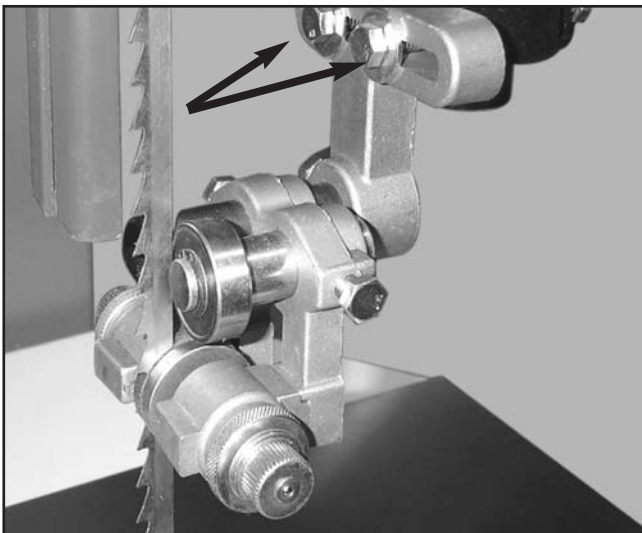
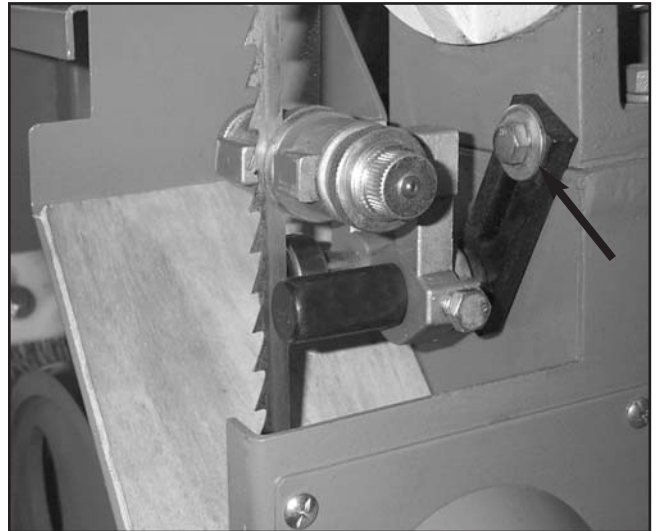

Figure 14. Loosen these bolts to adjust upper bearing assembly laterally.
Figure 15. Loosen this bolt to adjust lower bearing assembly laterally.
The support bearings support the back of the blade during the sawing operation. The adjustments that can be made to the support bearings are lateral placement and backing placement. Make sure the guide bearings are adjusted away from the blade before making this adjustment. **Figure 14** shows the upper support bearings. **Figure 15** shows the lower assembly. When making adjustments to the lower bearing the assembly will move up and down as it moves from side-to-side.
1. Loosen the hex bolts (shown in **Figures 14 & 15**) that allow the assembly to move side-to-side.